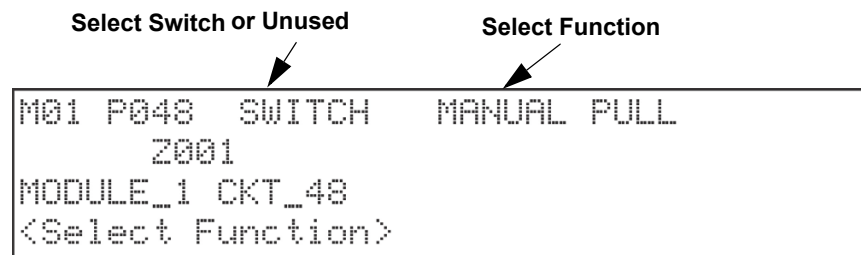

Figure 9-6 Programming Points as Inputs for the 5880 Module
10. To use 5880 as Input point, Enter point number 41 - 48. (See Figure 9-6 on page 16). Then press ENTER.